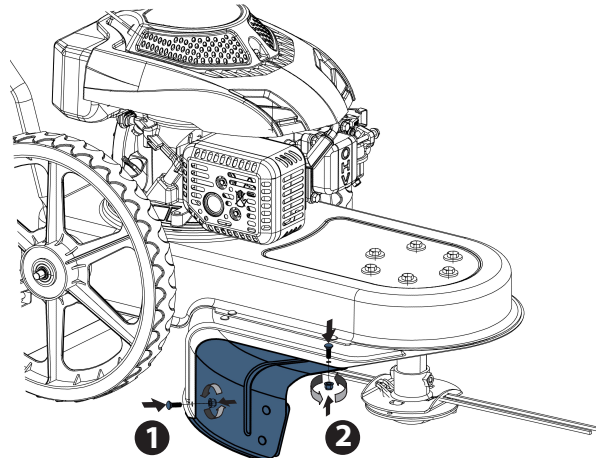

Figure 3-5
2. Insert the bolt into the hole with screw the nut and fasten it by tool. See Figure 3-5.